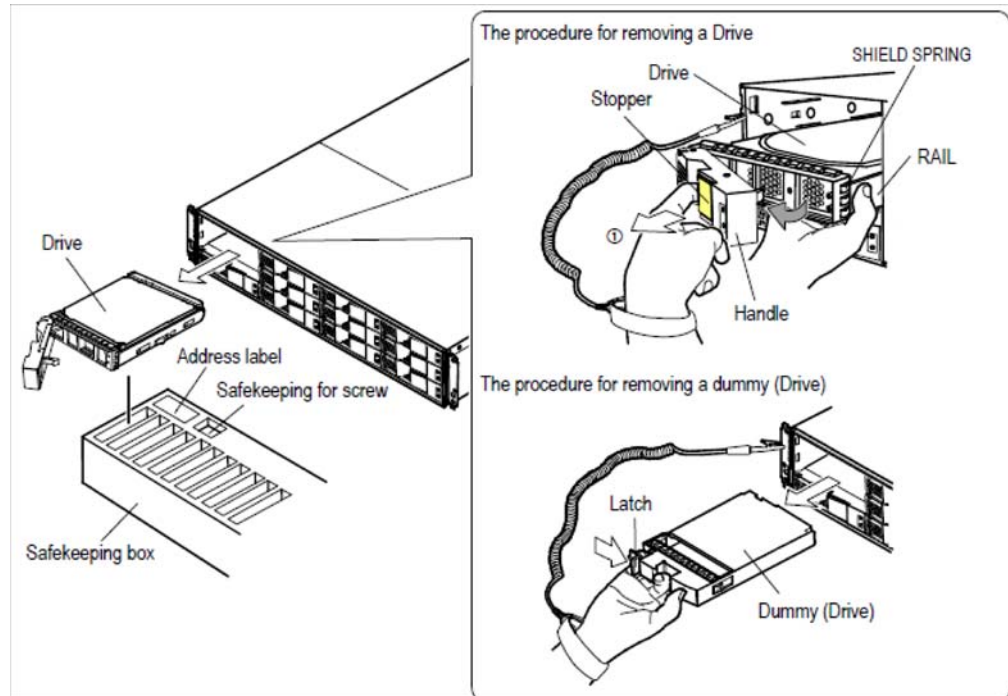

Figure 15-8: Removing a drive from a DBL Drive Box
1. Pull the stopper of the handle toward you to set the lock off (?in Figure 15-8 on page 15-24).